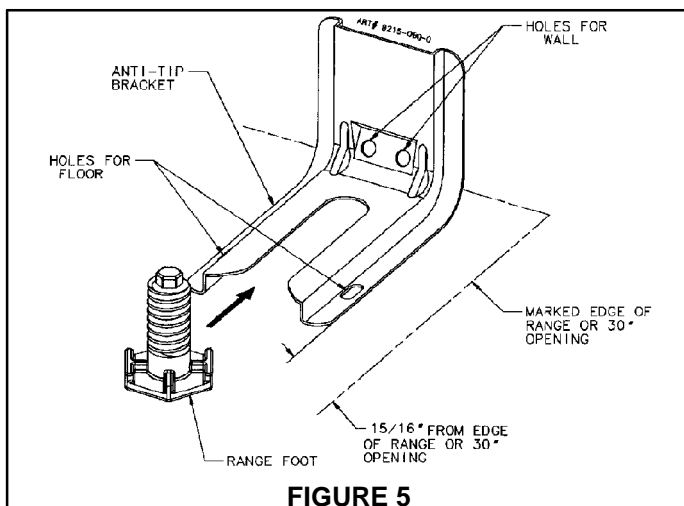
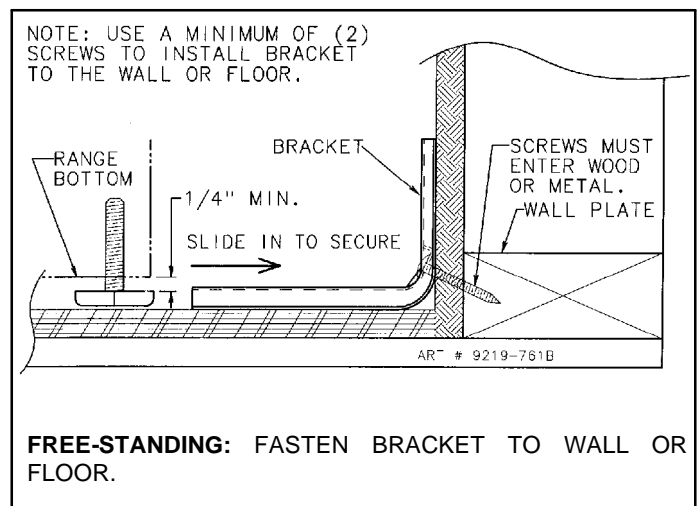

FIGURE 5
FIGURE 6
STEP 1 - Locating The Bracket (See Figure 5)
- Place the BRACKET 15/16" from the marked "EDGE" toward center of opening and against the back wall, as shown in figure 5.
- Use the bracket as a template and mark the required holes, as shown in figure 5 for the type of construction you will be using.
- Floor: Locate the center of the two holes identified in figure 5 as "HOLES FOR FLOOR". Drill a 1/8" pilot hole in the center of each hole (a nail or awl may be used if a drill is not available). Secure the ANTI-TIP bracket to the floor with the two screws provided. Proceed to Step 3.
- Wall: Locate the center of the two holes identified in figure 5 as "HOLES FOR WALL". Drill an angled 1/8" pilot hole in the center of each hole as shown in figure 6. (A nail or awl may be used if a drill is not available). Secure the ANTI-TIP bracket
to the wall with the two screws provided as shown in figure 6. Proceed to STEP 3.
- Suitable screws for concrete construction can be obtained at the hardware store. Drill the required size hole for the hardware obtained into the concrete at the center of the holes identified in figure 5 as "HOLES FOR FLOOR". Secure the ANTI-TIP bracket to the floor. Proceed to STEP 3.
- Align the range to its designated location and slide it back into position. Note: A minimum clearance of 1/4" is required between the range and the leveling foot that will engage the ANTI-TIP bracket, see figure 6.